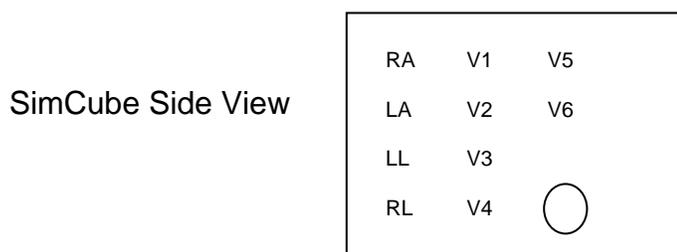

Fig. 3
9. **For ECG and Respiration testing**, connect the ECG cable from the monitor under test to the SimCube simulator. Snap locations are indicated on the side of the SimCube simulator and shown in Fig. 3. For 12 lead simulation and/or when using large snap heads or alligator clips, it may be necessary to use ECG Extender Module. The Extender Module is available from Pronk Technologies Inc.